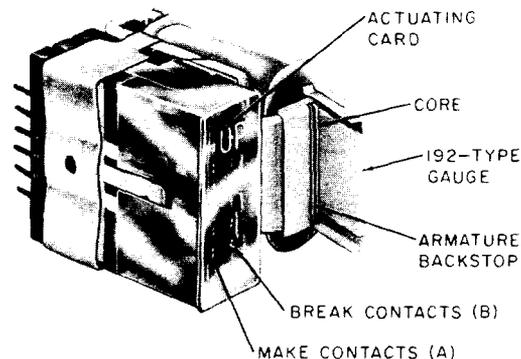

Fig. 7—Contact Gauging With 192-Type Gauge Between Core and Armature Backstop (Relay Unoperated)
* Gauge inserted between core and armature, backstop, relay unoperated. See Fig. 7.